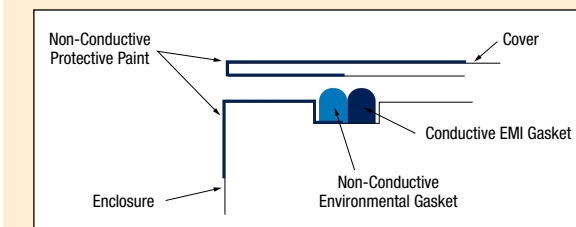
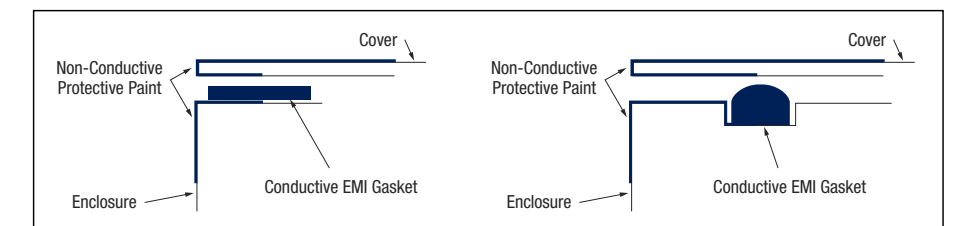

Figure 2-4
Figure 2-5
4. To prevent corrosion on outside edges exposed to severe corrosive environments, consider dual conductive/non-conductive gaskets (see Figure 2-4) – or – allow the non-conductive protective paint (normally applied to outside surfaces) to intrude slightly under the gasket mating surface (see Figure 2-5).